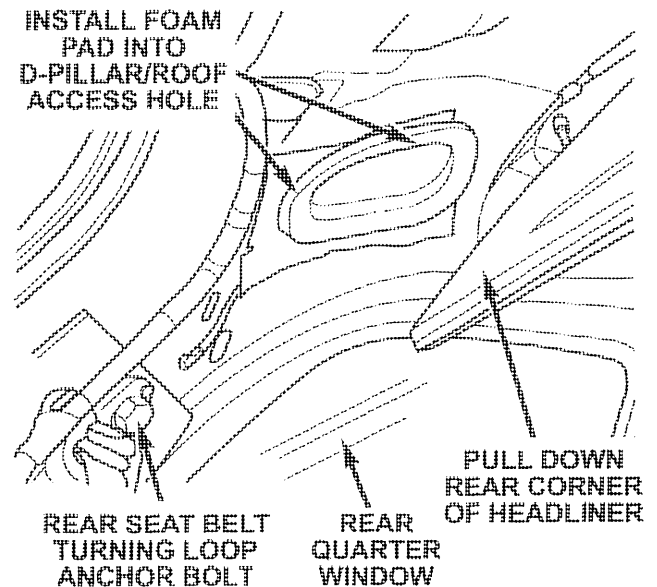

Figure 4 – Left Side Shown
15. Pull the rear corner of the headliner down and install one of the supplied foam pads into the D-pillar opening (Figure 4).
31. Pull the rear corner of the headliner down and install the other supplied foam pad into the D-pillar opening (Figure 4).